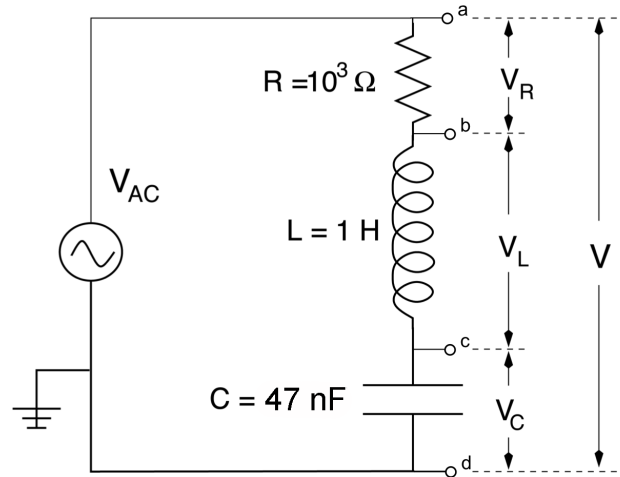

Figure 1: A Series LRC Circuit
If a resistor, inductor, and capacitor are combined in series (as in Fig. 1), the magnitude of the impedance of the entire circuit is
2. Create the circuit in Fig. 1 using the plug board kit. Use the function generator “output” (not “sync output”) to supply V_{AC} . By default the function generator generates a sine wave at nominal frequency of 1 kHz and nominal amplitude of 5 V (10 V peak-to-peak). However it expects a 50Ω load ($R = 50 \Omega$), so the displayed amplitude will be different from the actual amplitude. Trust the oscilloscope’s measurement to be the true amplitude.